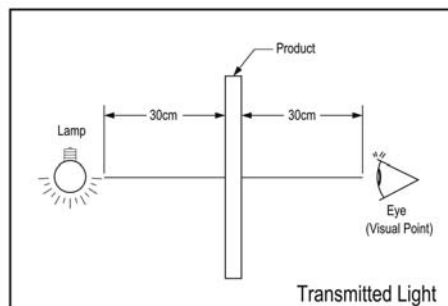
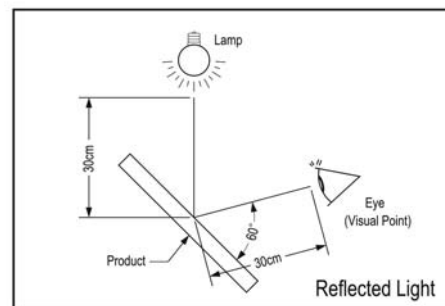

Figure 11-1
Figure 11-2
(1) 18W(1000 ± 500 Lux) fluorescent luminant lamp is used for appearance inspection. Detail settings are shown in (Fig 11-1) and (Fig 11-2).
[(1) 檢測始用之燈光為 18W(1000 ± 500 Lux)白熾燈光，詳細的擺設方式，請參考圖(Fig11-1), (Fig11-2)]
(2) Minor impurities outside viewing area are acceptable unless their existence affect electrical functions.